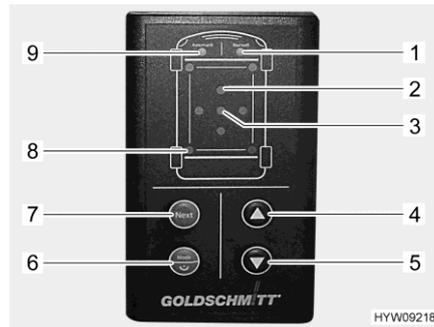

Fig. 41 Control unit (hydraulic steady legs)
If the vehicle's tilt is too great, the corresponding red "Inclination" LED flashes (Fig. 41,2). Select a suitable location, or operate the steady legs manually at your own risk.
If when being extended a steady leg reaches its maximum length due to a depression in the ground, the "Manual mode" (Fig. 41,1) and "Automatic mode" LEDs flash (Fig. 41,9) three times. If this happens, retract the steady legs, place suitable supports under the affected steady leg and repeat the procedure.
*Switching on/off:* ■ Press the "On/Off/Mode" (Fig. 41,6) button for longer than 1 second. After switching on, a signal tone sounds and the "Automatic mode" LED (Fig. 41,9) lights up.
*Changing mode:* ■ Press the "On/Off/Mode" button (Fig. 41,6) briefly. The mode changes between Manual and Automatic. The corresponding LED (Fig. 41,1 or Fig. 41,9) lights up.
■ Press the "Extend" (Fig. 41,5) button. The alignment procedure is performed automatically. The "Steady leg" LEDs (Fig. 41,8) flash as long as the steady legs are moving.
If the vehicle has folding supports: Movement of the steady legs ceases after unfolding to give you the chance to put chocks in place. The "Automatic mode" LED (Fig. 41,9) flashes rapidly.
■ Press the "Extend" button (Fig. 41,5) again. The alignment procedure is continued.
■ Press the "Retract" button (Fig. 41,4). The steady legs retract completely. The "Steady leg" LEDs (Fig. 41,8) flash as long as the steady legs are moving.
- Press the "On/Off/Mode" button (Fig. 41,6) briefly in Automatic mode. The "Manual mode" LED (Fig. 41,1) lights up.
- Pay attention to the "Inclination" LEDs (Fig. 41,2). An illuminated LED indicates that the vehicle must be raised on this side.
- Press the "Next" button (Fig. 41,7) as often as necessary until the desired pair of steady legs is selected. The corresponding "Steady leg" LEDs (Fig. 41,8) light up.
- Press the "Retract" (Fig. 41,4) or "Extend" button (Fig. 41,5) until the desired position is reached.
- Press the "Next" button (Fig. 41,7) again until another desired pair of steady legs is selected. Repeat the procedure until the vehicle is aligned. The vehicle is aligned when the green "Position ok" LED (Fig. 41,3) lights up.
- Press the "On/Off/Mode" (Fig. 41,6), "Extend" (Fig. 41,5) and "Retract" (Fig. 41,4) buttons simultaneously and keep them pressed for 3 seconds.
- Release the buttons following audible acknowledgement and illumination of the "Position ok" LED (Fig. 41,3). The position is saved as the OK position.